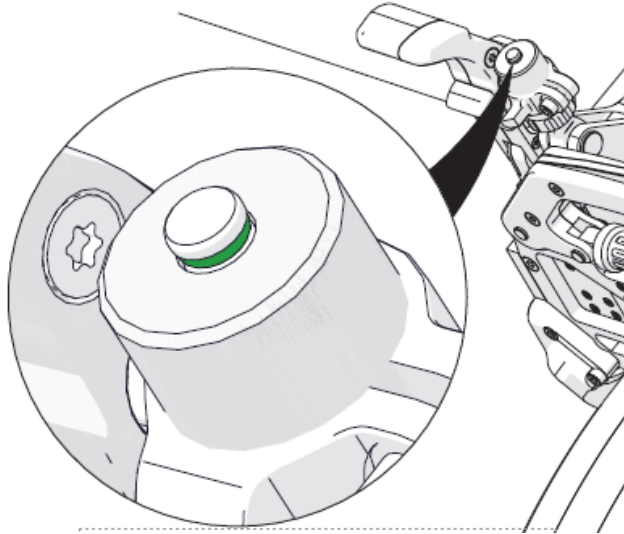

Figure 1-42 Correct pressure
- Correct pressure will allow the green o-ring to be visible on the indicator piston on the top of the mechanism (see Figure 1-42 on page 56).